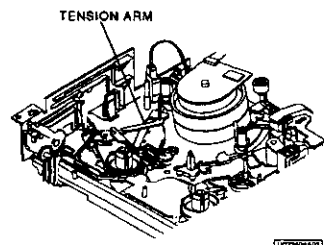

Fig. 2-34-4
4 Move the TENSION ARM shown in Fig. 2-34-4 fully to the direction shown by the arrow. Move the TAPE GUIDE ASSY (SP) and TAPE GUIDE ASSY (TU) shown in Fig. 2-33-1 fully to the unloading position.